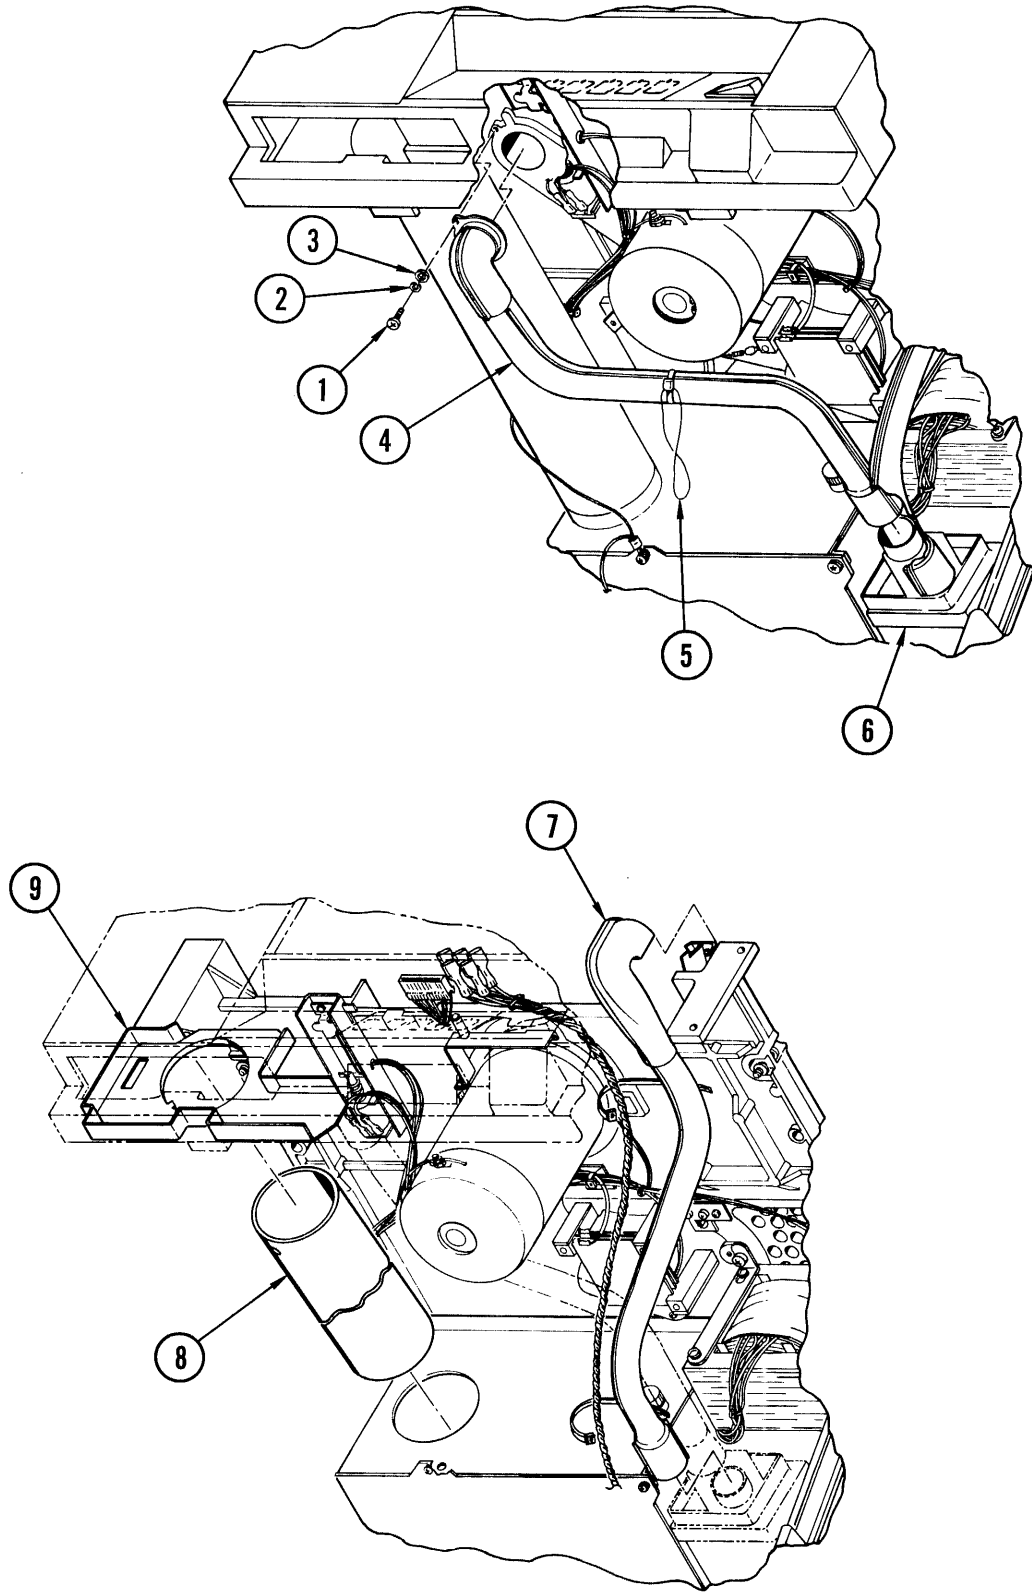

Figure 4-27. Top Plate Air Duct, Front Panel Air Duct, Air Intake Tube
4-41. **Removal and Replacement (Figure 4-27).** Place the transport in service access position (paragraph 4-3). To replace the top-plate air duct, proceed as follows:
4-42. **Front Panel Air Duct (Figure 4-27).** Replace the front panel air duct as follows:
- 4-43. **Air Intake Tube. (Figure 4-27).** Replace the air intake tube as follows:
- c. Remove air intake tube (8) from power supply case by depressing tube slightly at hole (bottom of tube) to disengage tooth and slide forward into front panel adapter (9).
4-45. **Disassembly, Removal and Replacement (Figure 4-27).** To disassemble hub lock assembly and remove parts from top plate and supply motor, proceed as follows: